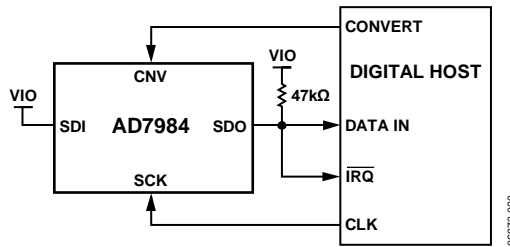
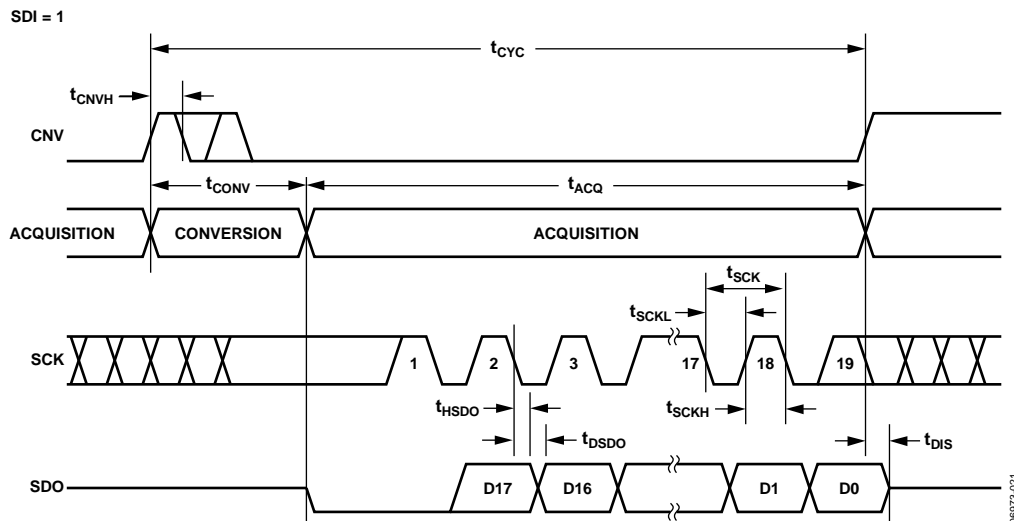
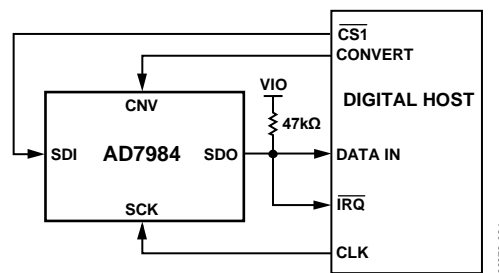
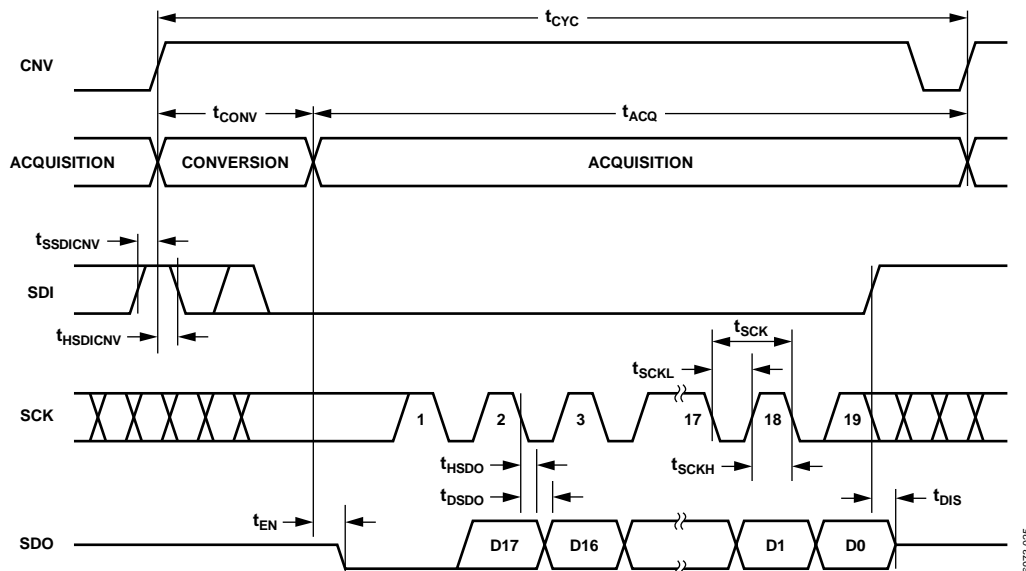

Figure 29. \overline{CS} Mode, 3-Wire with Busy Indicator Connection Diagram (SDI High)
Figure 30. \overline{CS} Mode, 3-Wire with Busy Indicator Serial Interface Timing (SDI High)
Figure 33. \overline{CS} Mode, 4-Wire with Busy Indicator Connection Diagram
Figure 34. \overline{CS} Mode, 4-Wire with Busy Indicator Serial Interface Timing
- In $\overline{\text{CS}}$ mode if CNV or SDI is low when the ADC conversion ends (see Figure 30 and Figure 34).
The connection diagram is shown in Figure 29, and the corresponding timing is given in Figure 30.
The connection diagram is shown in Figure 33, and the corresponding timing is given in Figure 34.